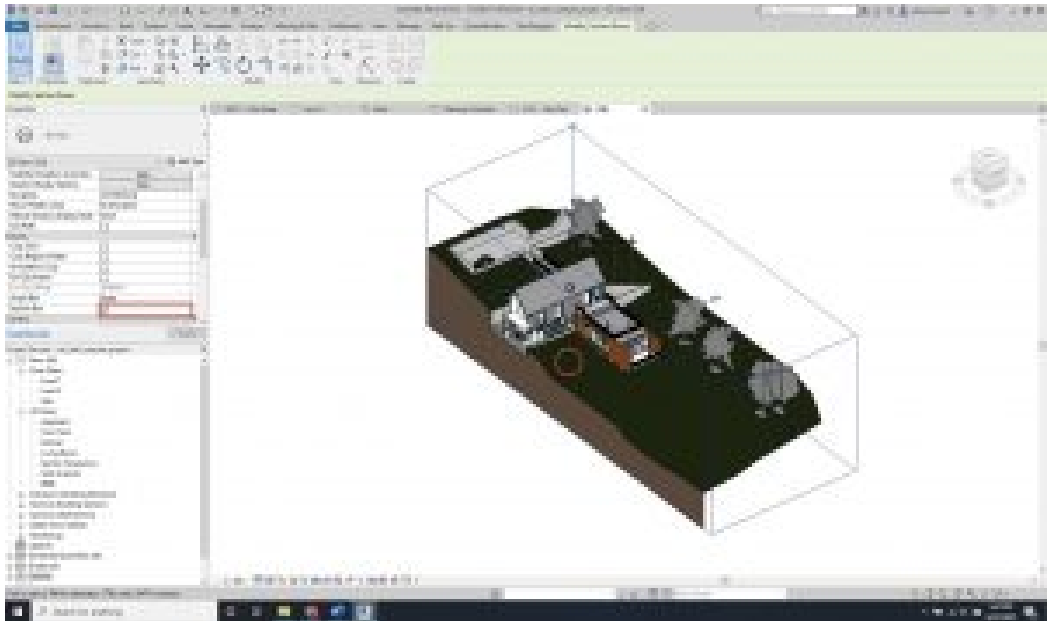

Figure 1.12 Section Box
6. Pull in a side of the cube to cut through the building as shown in Figure 1.12